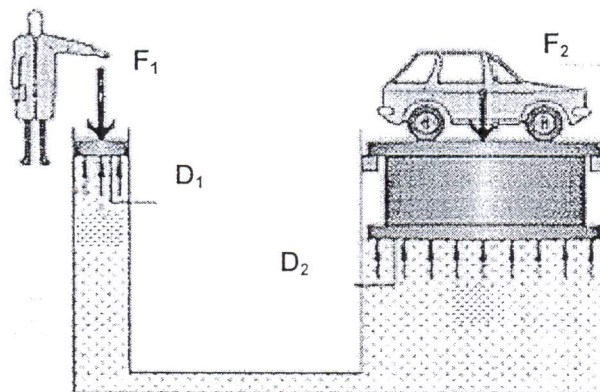

Figure 1
- (c) A hydraulic car jack shown in **Figure 1** is used to raise and lower cars in a workshop. It has a compression piston diameter (D_2) of **300mm** and pump piston diameter (D_1) of **60mm**. If the maximum car load on the compression piston is **1500N** and need to be raised by **15mm**, determine the force and stroke needed for the pump piston? Leave your answer in N and mm. (8marks)